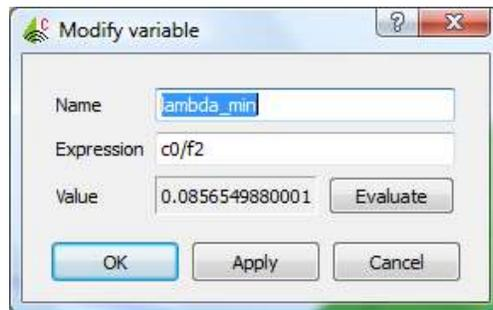

Figure 13.
16. We define  $F1=1.0e9$  and  $F2=2.0e9$  as the start and stop frequency variables. We will create the minimum lambda (wavelength) based on the highest frequency, thus  $\lambda_{min}=c0/F2$ . This variable is shown in Figure 13.